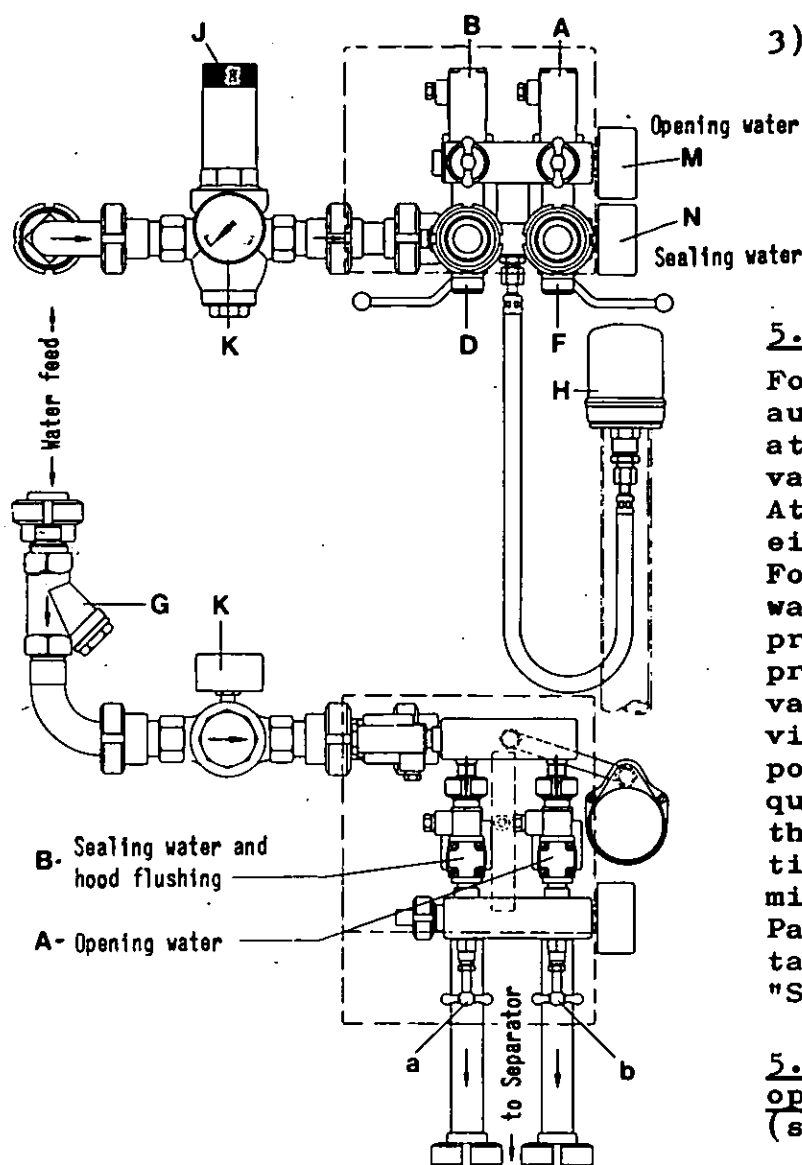

Fig. 5/3
When opening-water valve is opened for sediment ejection, water flows through channel 5 to valve 6. The water pressure pushes valve piston 7 inwards thus opening channel 10. The water contained in sealing chamber 3 can then flow off (fig. 5/1c). As the liquid level recedes, the sealing pressure acting on the underside of the piston quickly decreases. As soon as it is smaller than the opening pressure acting on the upper side of the piston, the latter is pushed downwards, thus opening the ports in the bowl bottom for solids ejection.
The operating-water connection is provided with a water-pressure reducer K (fig. 5/3) by means of which the line pressure is to be throttled to 1 bar. To adjust the water-pressure reducer, proceed as follows:
- 1) Open rapid-closing valve D (fig. 5/3) all the way.
Pressure gauges M and N (fig. 5/3) merely serve for checking the closing and opening operations.
To accomplish partial ejection, opening-water is briefly fed to the bowl via solenoid valve A (fig. 5/3). The duration of opening-water supply (= duration of partial ejection: 0.5 to 2 seconds) varies with the amount of ejected sediment and must, therefore, be determined by tests which can be carried out with water. During each partial ejection an additional amount of approx. 0.2 l/sec. of flush water flows off through the sediment discharge. This amount is to be deducted from the measured total volume.
When the time adjusted at time function element "Separation" has elapsed (1 hour when separating milk and 15 to 30 minutes when separating whey), the first partial ejection takes place. Time function element "Pre-flushing" is to be set so as to ensure opening of solenoid valve B "Sealing and flush water" (fig. 5/3) 10 seconds before each partial ejection. The water injected into the hood will prevent incrustation of the sediment.
In spite of cleaning-in-place, the bowl should be dismantled (see 4.3) once a month and cleaned manually. On this occasion, clean and wipe dry the guide surfaces and threads and apply a thin film of the supplied paste. After having removed sliding piston 4 (fig. 5/1a), clean sealing chamber 3 with care.